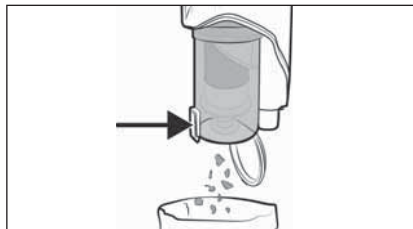

Fig. 21
- 1) Hold the dirt container **7** in a waste bin and press the release button for the dirt container lid **8**. The dirt container lid **9** opens and the contents are emptied into the waste bin (see Fig. 21). Then close the dirt container lid **9**.